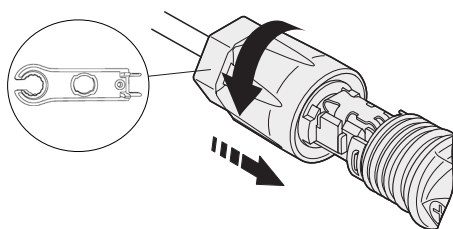

Fig. 48. Locking the connector.
5. Push the battery connector up to the threaded joint and use an open-end spanner to firmly lock the connector with a torque of 2 Nm, as shown in Fig. 48.